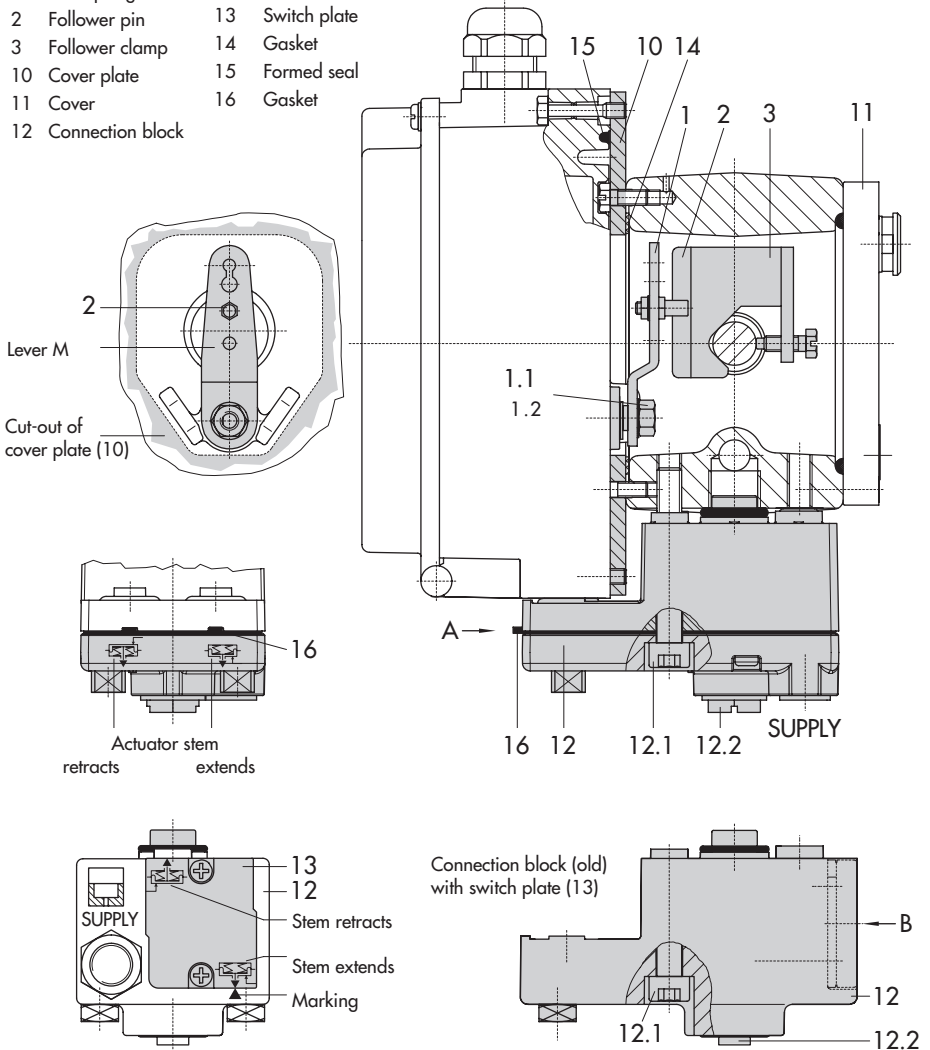

Fig. 4 · Direct attachment – Signal pressure connection for Type 3277 Actuator with 240, 350 and 700 cm²
- Place follower clamp (3) on the actuator stem, align and screw tight so that the mounting screw is located in the groove of the actuator stem.
- Mount cover plate (10) with narrow side of the cut-out opening (Fig. 4, on the left) pointing towards the signal pressure connection. Make sure that the bonded gasket (14) points towards the actuator yoke.
- For actuators with 700 cm², remove the follower pin (2) at lever **M** (1) on the back of the positioner from pin position **35**, reposition it in the bore for pin position **50** and screw tight.
- Make sure that the tip of the gasket (16) projecting from the side of the connection block (12) is positioned above the actuator symbol that corresponds with the actuator with fail-safe action "Actuator stem extends" or "Actuator stem retracts." If necessary, remove the three fixing screws and the cover. Then reposition the gasket (16) turned by 180°. The previous version of the connection block (Fig. 4, bottom) requires the switch plate (13) to be turned such that the corresponding actuator symbol points to the marking.
- Place the connection block (12) with the associated seal rings against the positioner and the actuator yoke. Screw it tight using the fixing screw (12.1). For actuators with fail-safe action "Actuator stem retracts", additionally remove the stopper (12.2) and fit on the external signal pressure piping.
- Mount cover (11) on the other side. Make sure that the vent plug points downwards when the control valve is installed to allow any condensed water that collects to drain off.